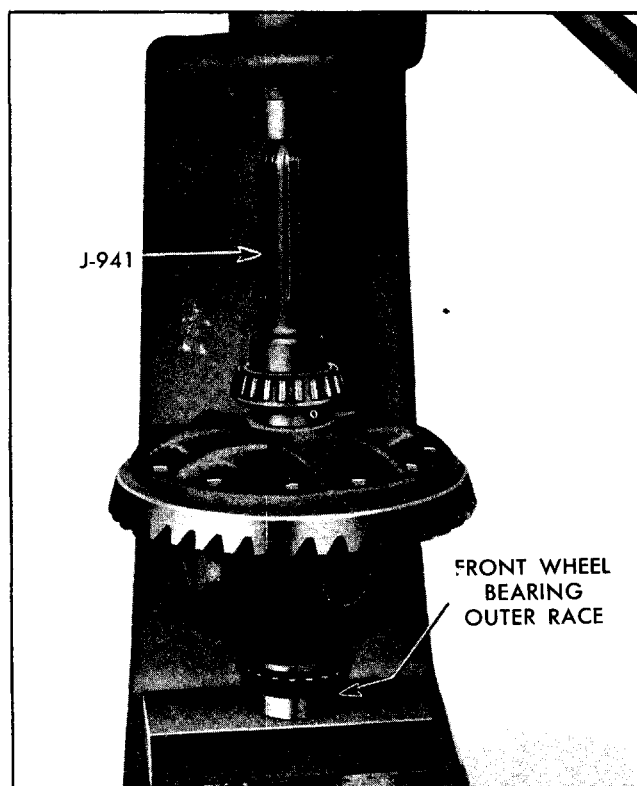

Fig. 4-44 Installing Side Bearings With Installer J-941
b. Install bearing by pressing or driving inner race onto case using Installer J-941 (Fig. 4-44). Press only on inner race or bearing will be damaged.
13. Visually inspect side bearings for wear and replace if necessary. Install inner race and roller assemblies on hubs using Installer J-941 (Fig. 4-44). After bearing has been installed on one side, it should be supported by the inner race by some suitable means such as an outer race from a front wheel bearing, when bearing on other side is being installed. **NOTE:** After bearings have been installed, inspect fit of inner races on case hubs by prying against shoulders at puller recesses. Bearing inner races must be tight on case hubs; if loose, replace with new bearing or, if necessary, new case.